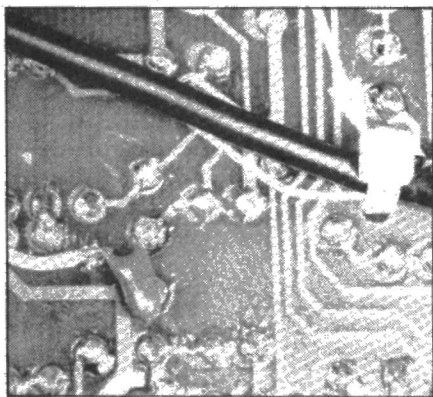

Figure 13. Piano re-trigger modification (tantalum end).
24. If you wish the piano to re-trigger when an additional note is played, connect a 1uF 35V tantalum capacitor with its negative lead to the negative end of C179 and its positive lead via a length of wire to the unused pin 13 of IC44. See Figure 13 & 14.